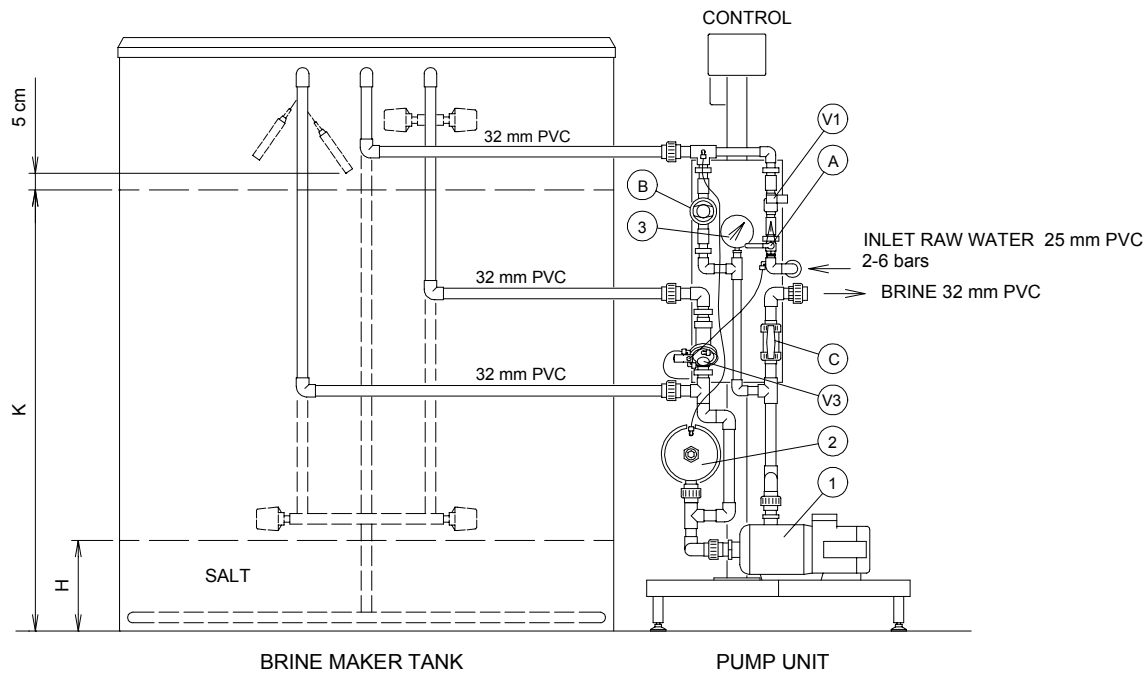

Fig. 1.
A. BRINE MAKER type B2 for STFA softening plant (see Fig. 1)
The installation is made according to Fig. 1 that shows dimensions and connections.
1. Check that all pipes and wires are correctly connected (see Figs. 1, 2 and 3).